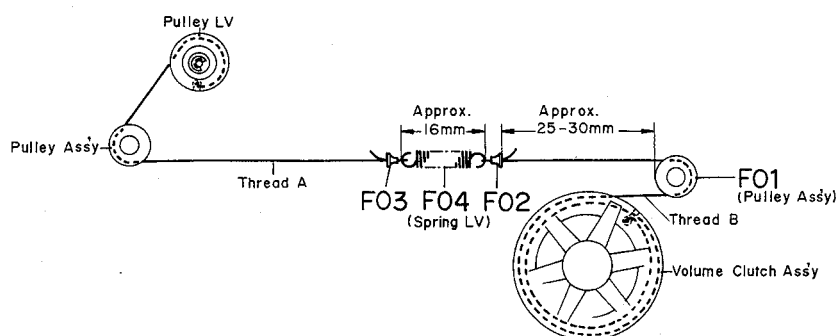
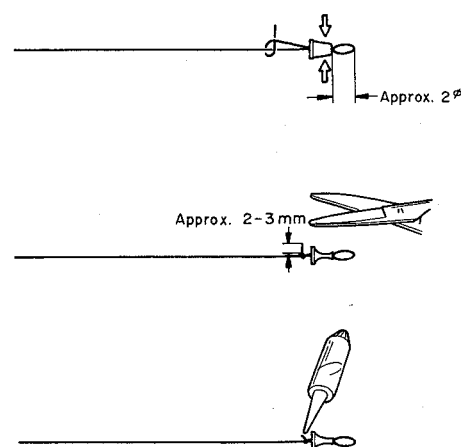

Fig. 5.2.11
Fig. 5.2.12
- (10) Refer to Figs. 5.2.11 and 5.2.12. Remove scotch tape which has been temporarily attached to Volume Clutch for fixing Thread B. Pass Thread B round Pulley F01. Then by rounding off with pliers, fix the Thread Guide F02 at the end of the thread so that the end of the thread comes 25 – 30 mm from the Pulley F01. Tie the thread, cut the end 2 – 3 mm from the knot, and bond the knot with AVDEL BOND #C2 as shown in Fig. 5.2.12.
Mount Spring LV F04 to Thread B. Remove the tape which was used to fix Thread A, then mount Thread A to Spring LV F04 through Thread Guide F03. By rounding off with pliers, fix Thread Guide F03 so that the spring elongates to about 16 mm as shown in Fig. 5.2.11. Tie the thread, cut the end 2 – 3 mm from the knot, and bond the knot with AVDEL BOND #C2.